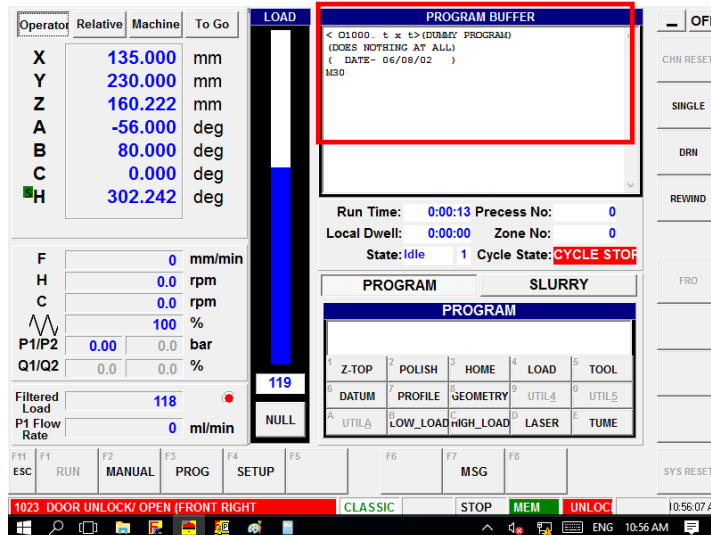

Figure 43 - Program Buffer window
7. Go back to the Zeeko GUI main screen and you will see the duplicate program displayed in the “PROGRAM BUFFER” window. See (Figure 43 - Program Buffer window).
8. Press the “Home” button to clear the program and repeat the above steps to transfer the program. See (Figure 43 - Program Buffer window).